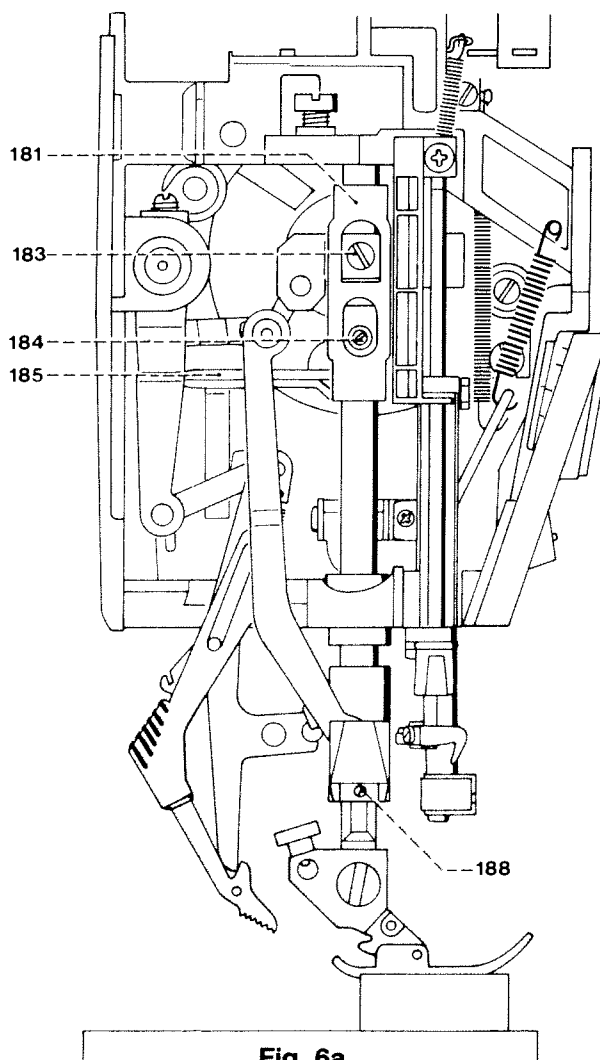

Fig. 6a
The sewing foot gauge however must not lift the zigzag foot, and needle thread tension release 181 must be without play (Fig. 6a).
- Loosen the three screws 183, 184 and 188 (Fig. 6a).